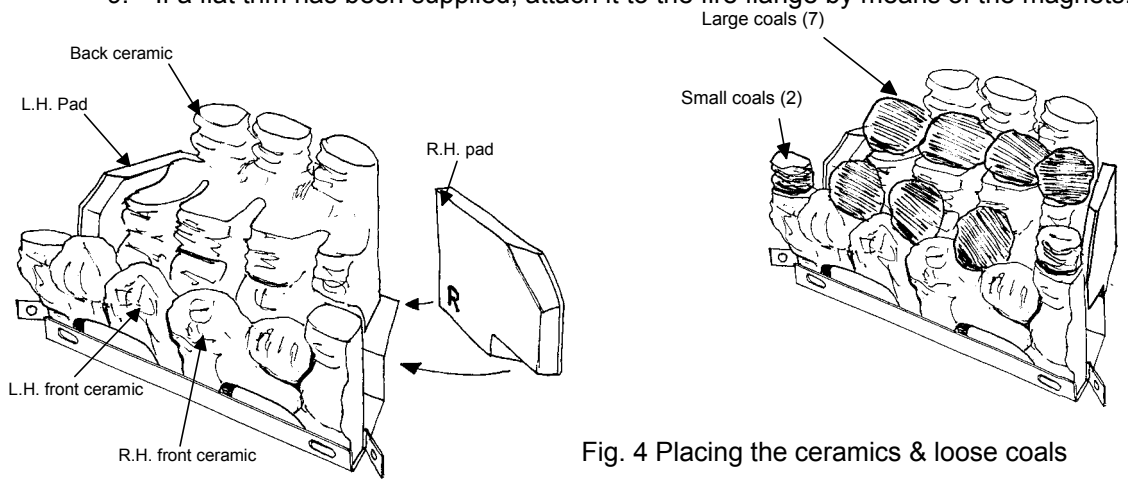

Fig. 4 Placing the ceramics & loose coals
4. The ceramic components are fragile and should be handled with care. Refer to Figs. 4 and 5 for positioning of ceramic fibre blocks and coals.
8. Remove the coals from the bag; note that 2 sizes are supplied. Place them on the ceramic blocks in accordance with Fig. 4.
11. Replace the ceramic blocks and coals (see Fig. 4).